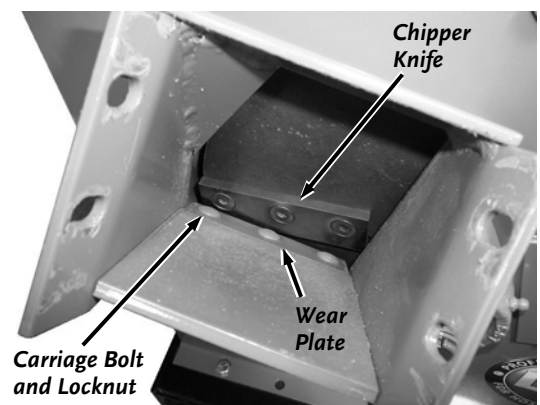

Figure 38
2. Use a 7/16" wrench to remove the three Locknuts and Carriage Bolts that attach the Wear Plate to the Chipper Assembly and then remove the Wear Plate (**Figure 38**).